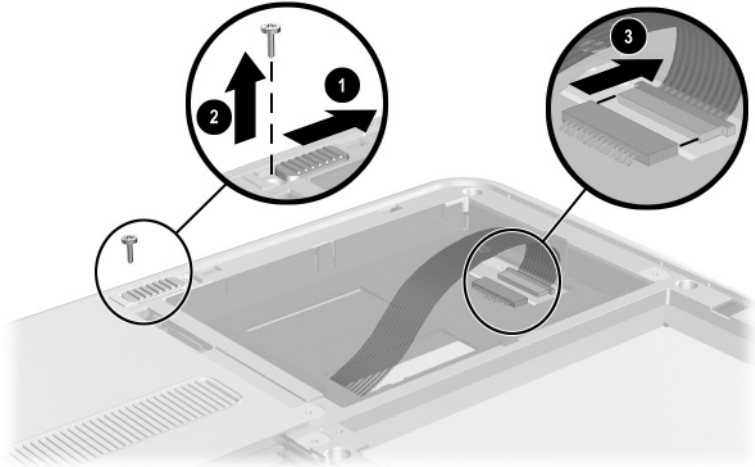

Figure 5-10. Removing the Display Panel Assembly Screw and Disconnecting the Digitizer Cable
5. Slide and hold the keyboard release latch **1** to the right (Figure 5-10).